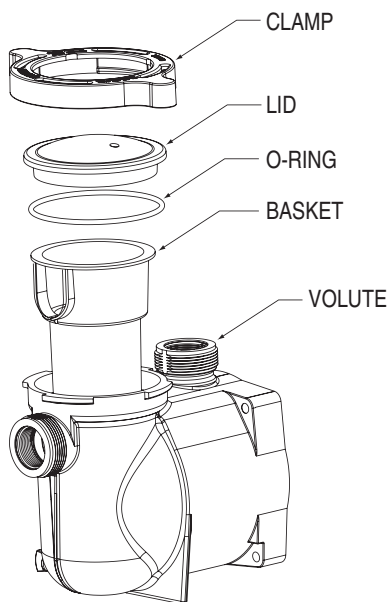

Figure 3.
9. Reinstall the lid by placing the clamp and the lid on the pot; see Figure 3.